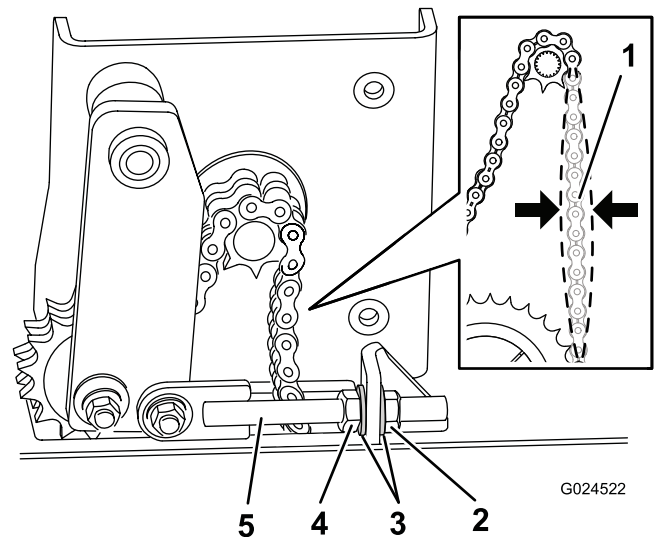

Figure 23
2. Loosen the locking nut on the tensioning rod (Figure 23).
3. Adjust the tension as follows (Figure 23):